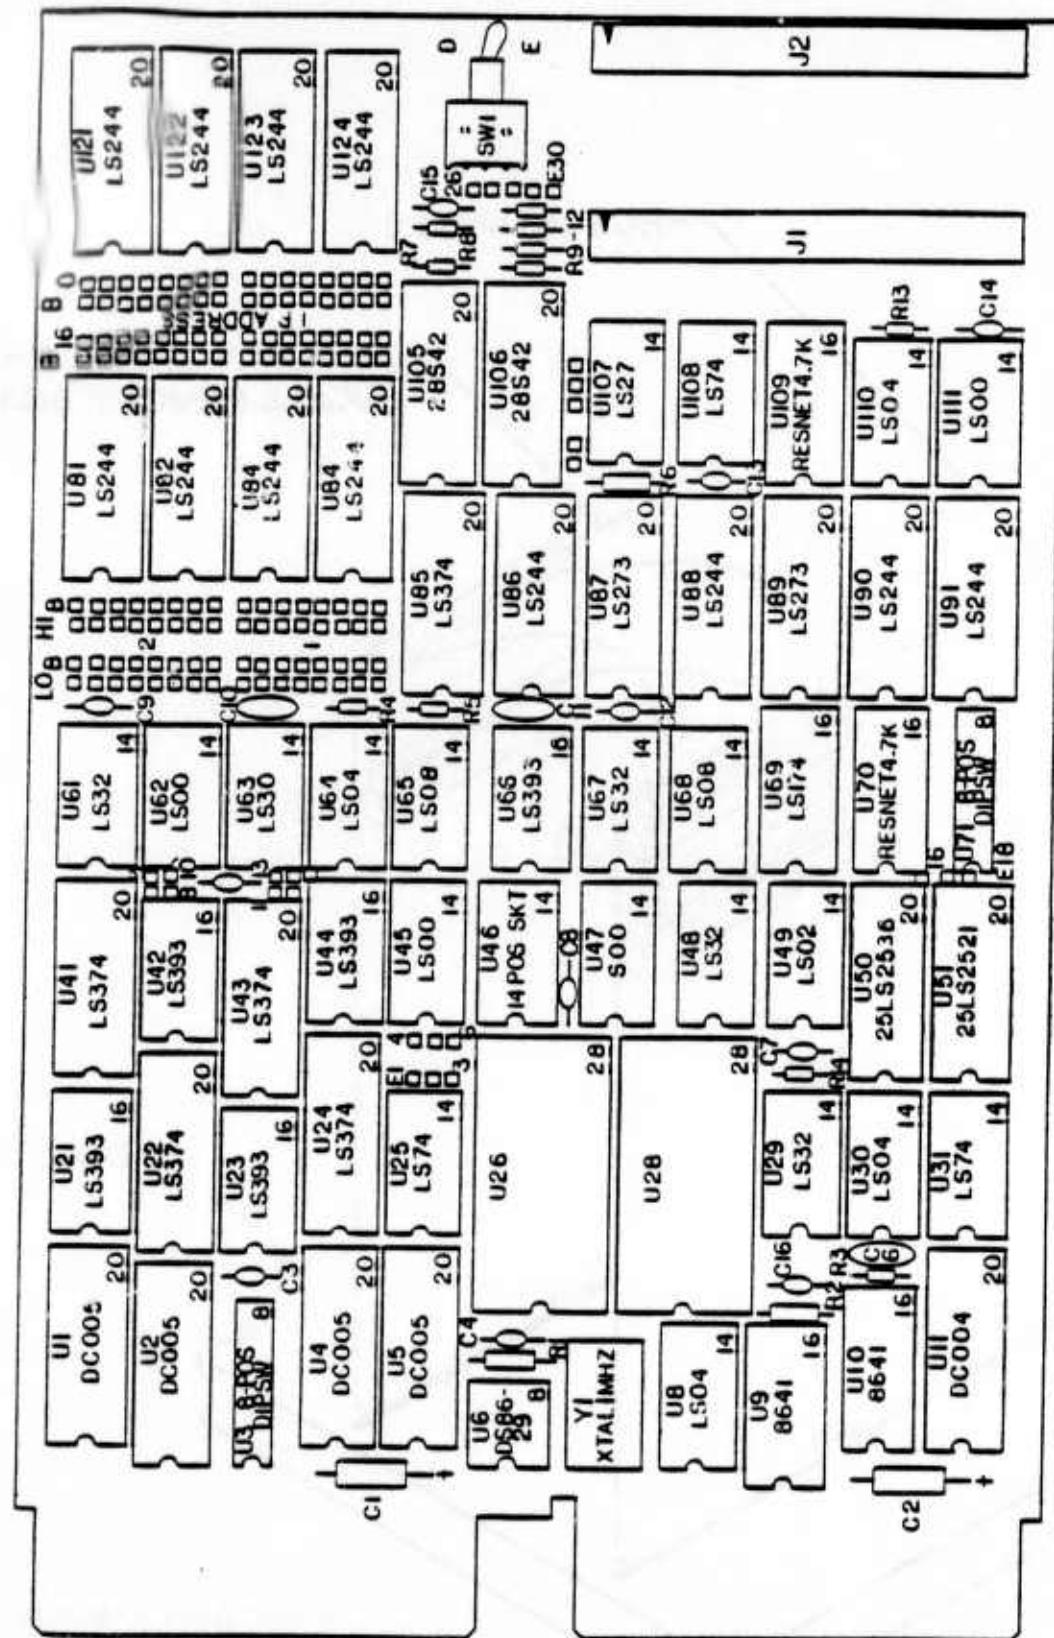
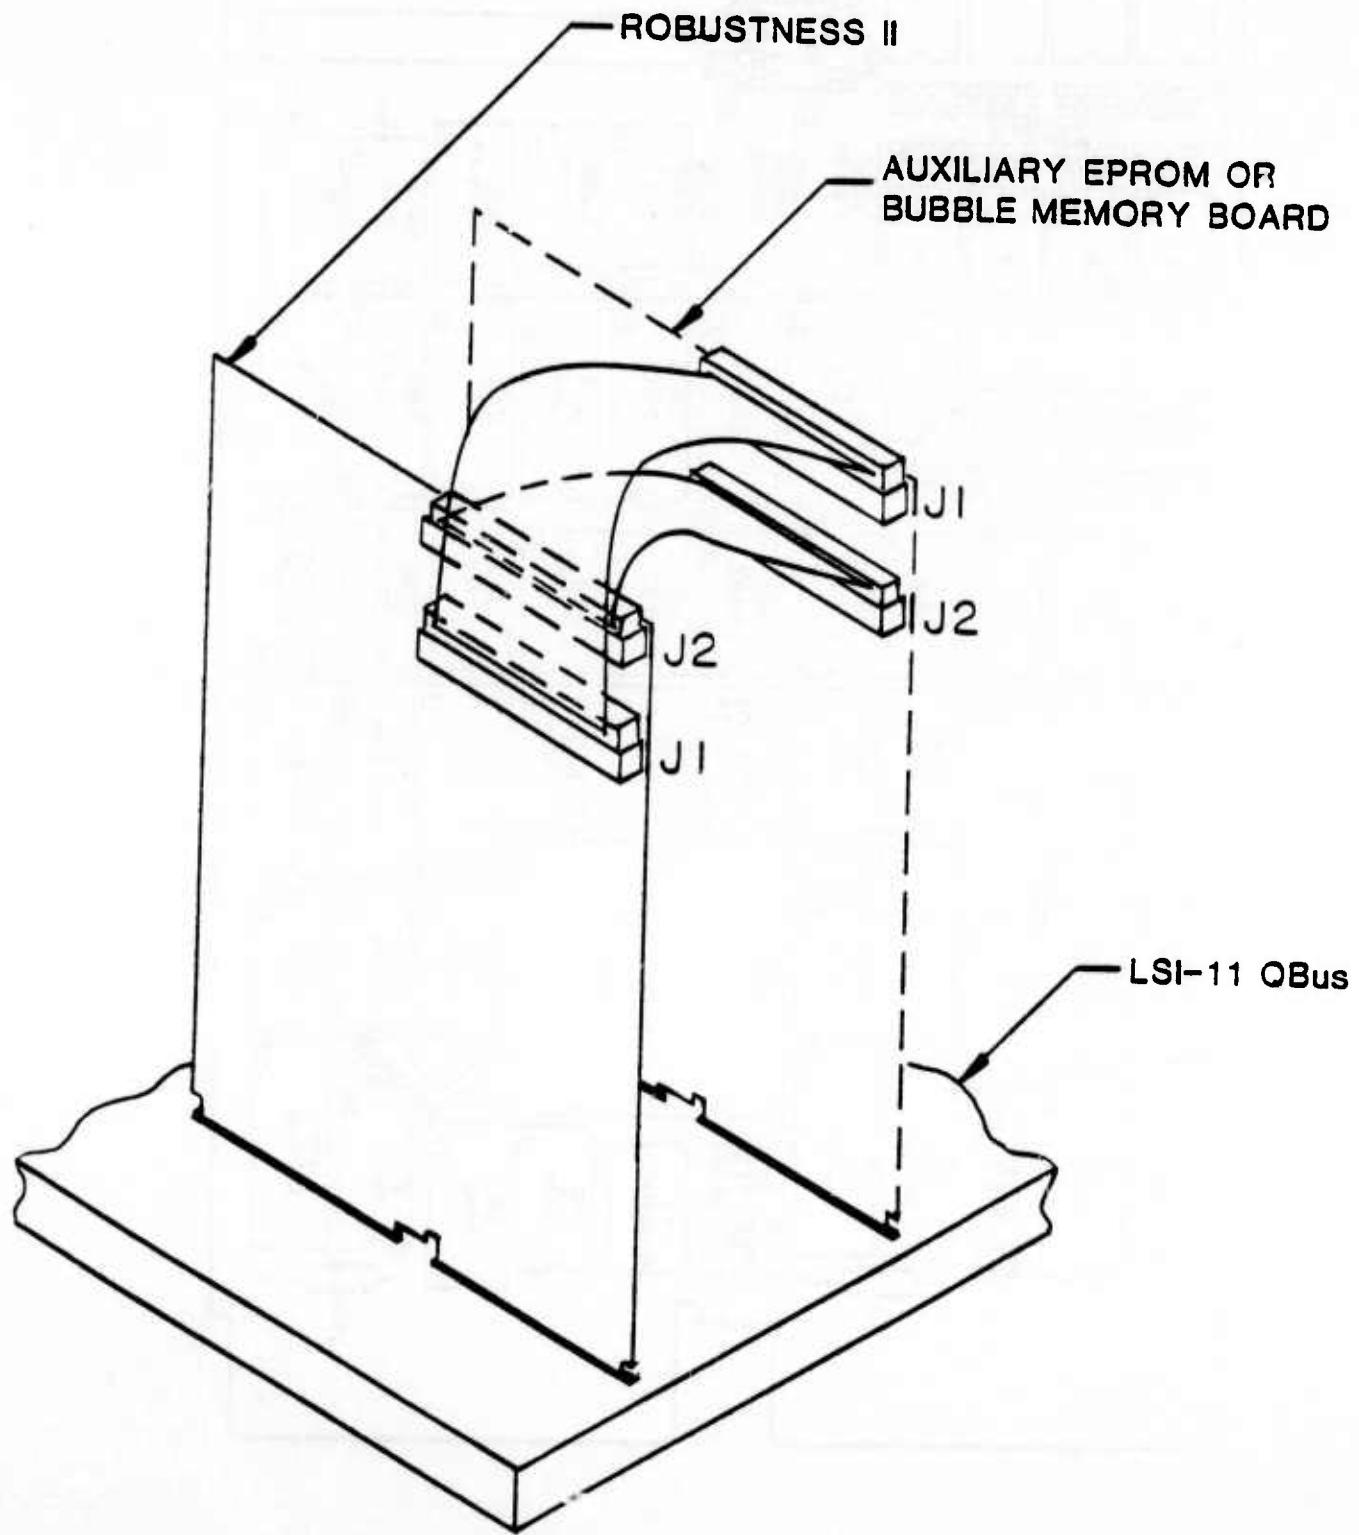

Figure 1-1 Robustness II Module
Figure 1-2 LSI-11 Backplane With Robustness II
| Figure 1-1 Robustness II Module | 1-3 |
| Figure 1-2 LSI-11 Backplane with Robustness II | 1-4 |
1.3 Robustness II Module Overview - The Robustness II Module consists of one dual-width printed circuit assembly as shown in Figure 1-1. It was designed to enhance the Digital Equipment Corporation (DEC) LSI-11 family of computer systems. Operating on the LSI-11 bus (Q-bus) as shown in Figure 1-2, the Robustness II provides features required by systems operating on telecommunication networks.
3.1 Robustness II Module Particulars - The Robustness II Module is a dual width printed circuit board as shown in Figure 1-1. It is connected to the LSI-11 bus (Q-bus), and requires one standard load to that bus. Though the Robustness II Module does not use interrupts or DMA transfers, it does provide grant continuity for interrupts and for DMA grant signals. The Robustness II Module consumes approximately 2.5 Amperes at +5Vdc. No other voltages are required.
3.3.3 External Bus - External bus connections J1 and J2 are provided to connect up to 256K words of external RAM, ROM, PROM, EPROM or Bubble memory. All incoming control signals provide open collector inputs to allow more than one external bus connection at a time. Figure 1-2 illustrates the interconnection of memory extension boards to the External Bus.